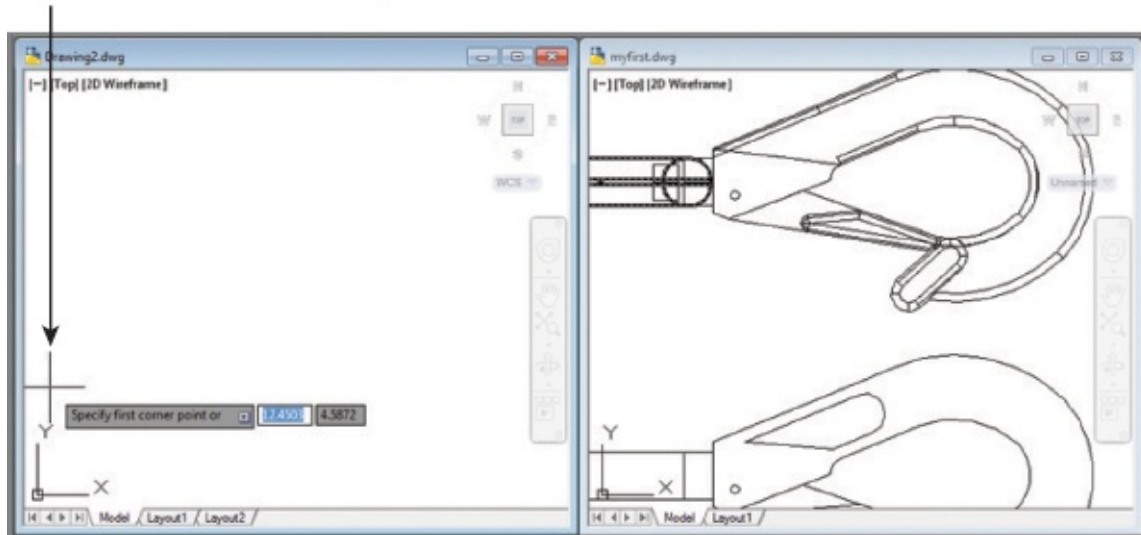

FIGURE 1.26 Selecting the first point of a rectangle
2. Click a point roughly in the lower-left corner of the drawing area, as shown in Figure 1.26. Now as you move your mouse, a rectangle follows the cursor, with one corner fixed at the position you just selected. You also see the following prompt in the Command window, with a similar prompt in the Dynamic Input display: